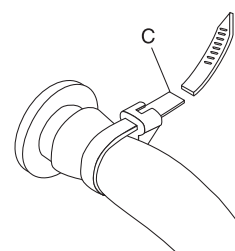

Fig. 5-7
④-4 After tightening the tube band, cut the tube band by the part C for cutting off the extra (See Fig. 5-7).
④-5 The tube band that were tightened once cannot be reused.